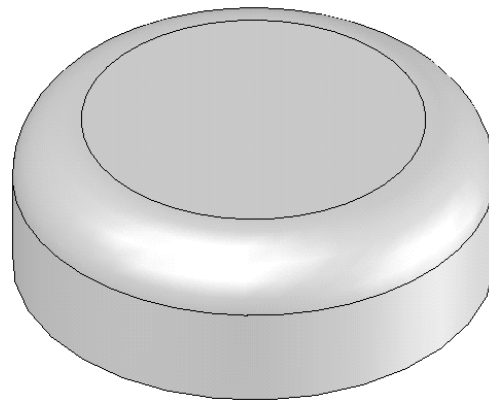

Figure 9-66 Base feature of the model
- Exit the sketching environment and create the base feature of the model, as shown in Figure 9-66.